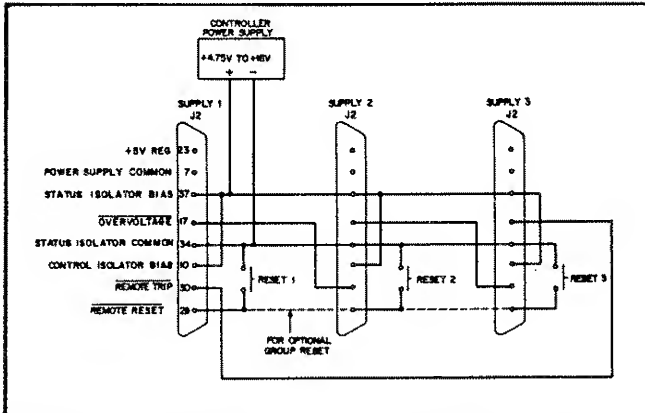

Figure A-8. System Shutdown Using Controller Power Supply
**A-57** Figure A-8 shows one method of system shutdown. The advantages of this method are that one common is used for all status and control lines (useful for controller-operated systems), and the capability of system reset. As shown in Figure A-8, one supply's OVERVOLTAGE line is connected to the next supply's REMOTE TRIP line, and so on in a continuous chain.